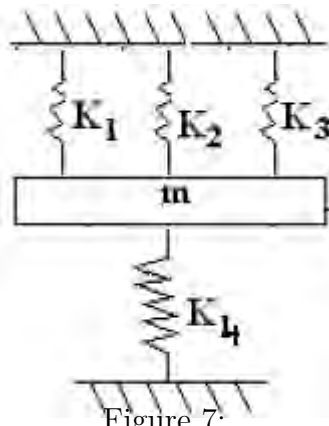

Figure 7:
3. Find the frequency of the spring shown in figure 7: [16]